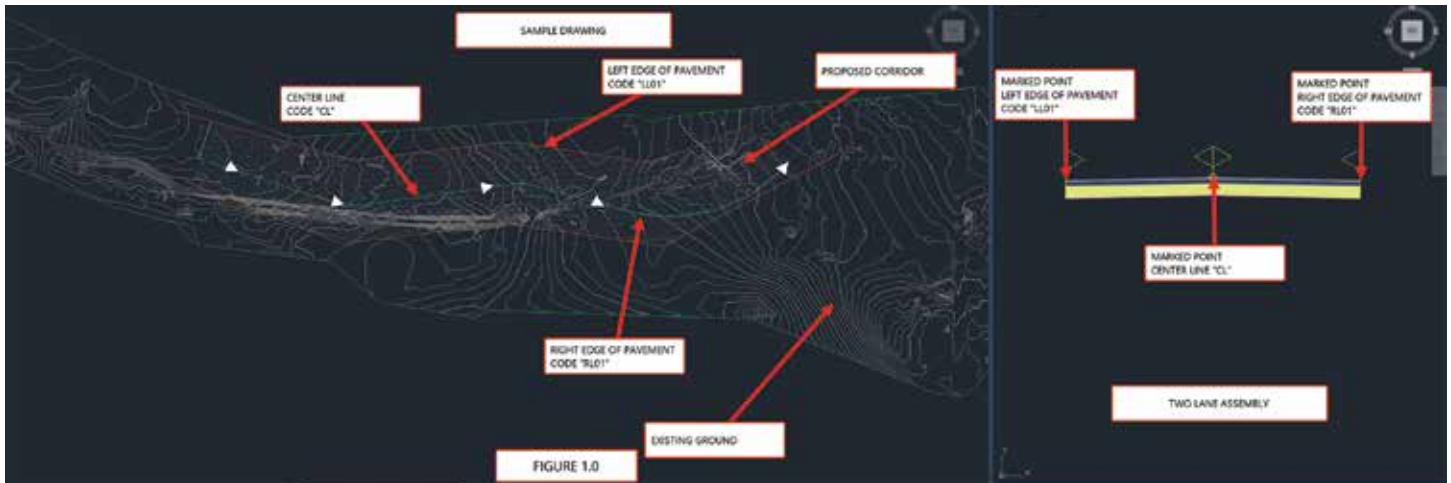

Figure 1 - Data Inputs
Data Inputs – The 3D topography of the existing ground, roadway centerline, and lanes edges (see Figure 1).
2. Create and a two-lane assembly (see Figure 1)
3. Add Marked points with codes "CL," "LL01," and "RL01" to the Centerline, Left and Right EOP, respectively (See Figure 1).
4. Create a Centerline, Left and Right EOP alignments, and sample corresponding existing ground profiles (see Figure 1)
5. Create a corridor using the above Centerline and target Left and Right EOP (see Figure 1)